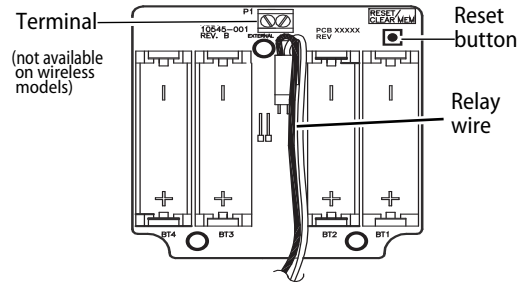
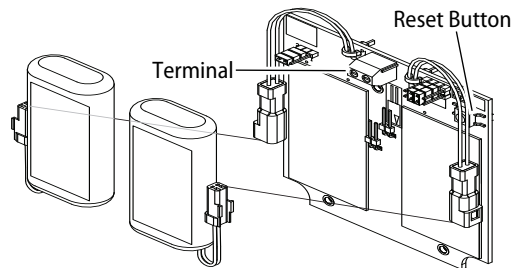

Figure 3 Wall Mount System circuit board
Figure 4 Installing weatherized batteries
- 2 Install batteries with proper polarity as shown in Figure 3. (For weatherized battery packs, simply connect the wires from the battery pack to the circuit board as shown in Figure 4.)
- 3 Press and hold the reset button on the circuit board (as shown in Figure 3) until the green light on the keypad flashes (about three seconds) then release the button.
- 4 If using a remote switch, the wires may be routed through the circuit board. Route the twisted pair wires through the access hole and to the terminal at the top of the unit. (Not available for wireless units.) See Figure 3.
If the mechanism doesn't unlock, remove the battery cover and check for proper orientation and seating of the batteries and motor connector. Ensure that wires are not pinched. Reset the electronics by pressing and holding the reset button on the circuit board until the light flashes green (approximately three seconds), then releasing the button. See Figure 3.